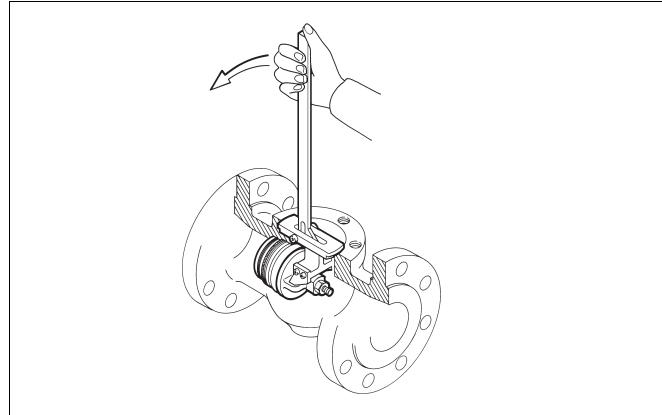

Fig. 13 Using a tool to pull out the seat
- Remove the seat (7). You may use a tool to pull out a seat that has been installed by means of O-rings, see Fig. 13.
Push the seat into the body by hand; the final installation is done using a tool (in the reverse order compared to the disassembly, see Fig. 13) or a plastic hammer.